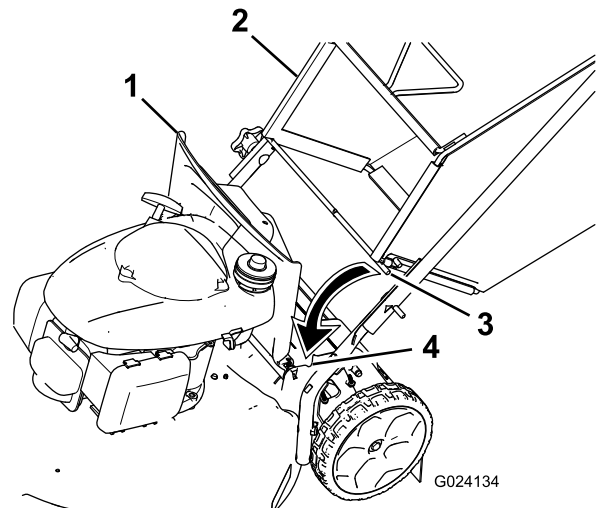

Figure 14
1. Lift up the rear deflector (Figure 14).
2. Insert the rod ends of the grass bag into the notches in the handle brackets (Figure 14).